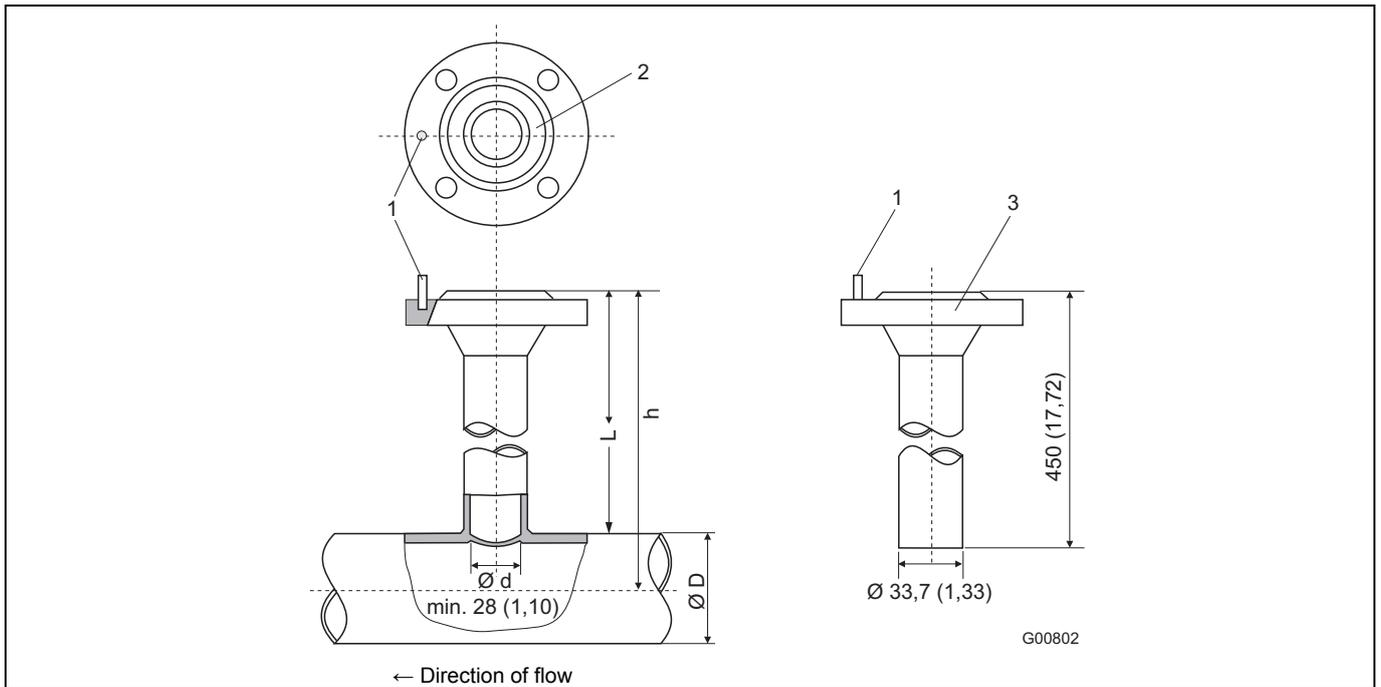

Fig. 7: Dimensions in mm (inch)
- 1 The length of the weld-on adapter must be equal to L once it has been welded on (see Figures 7 and 8)